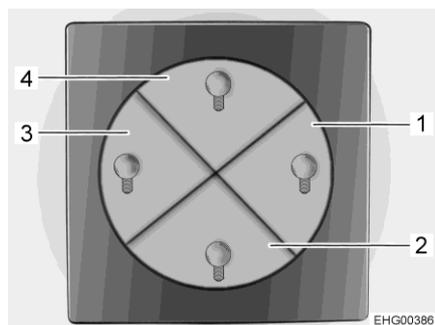

Fig. 75 Switch for light control
- Main light, living area (ceiling lighting) (touchpad 4 in Fig. 75)
- Ambience lighting, living area (indirect lighting by LED strips on the sides) (touchpad 2 in Fig. 75)
- Main light, sleeping area (ceiling lighting) (touchpad 3 in Fig. 75)
- Ambience lighting, sleeping area (indirect lighting by LED strips on the sides) (touchpad 1 in Fig. 75)